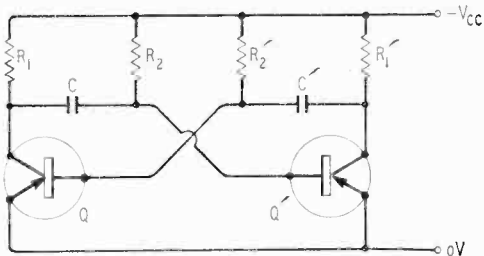
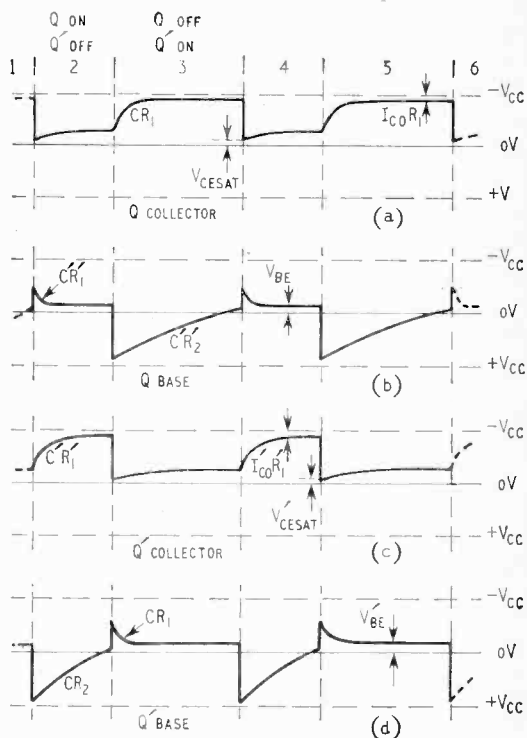
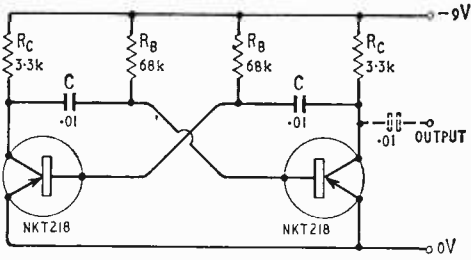
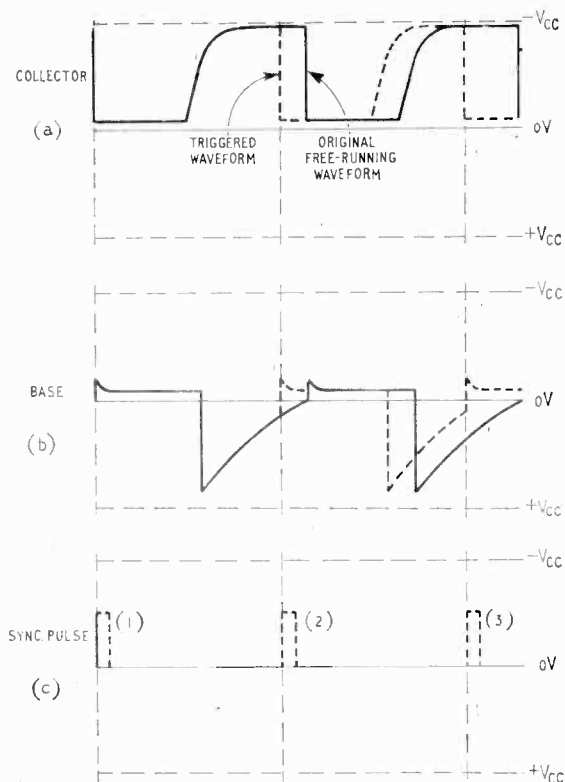

Fig. 33. Elementary astable multivibrator.
Fig. 34. Waveforms of astable multivibrator of Fig. 33.
Fig. 35. Simple 1kc/s astable multivibrator or square-wave generator.
Fig. 37. Wave-shapes of synchronized astable multivibrator.
The astable multi is a self-driven oscillator which generates a train of rectangular waves, and, since it requires no triggering signals, it is widely used as a primary source of pulses. The basic transistor circuit is illustrated in Fig. 33 (note that both cross-coupling impedances are capacitances). Other astable multis using different feedback circuits are
Operating Principle of Astable Multi.—To understand how the circuit of Fig. 33 works, the waveforms given in Fig. 34 are needed (with negative voltages upwards for p-n-p transistors). The sequence of operations is as follows. When the circuit is first switched on, both transistors tend to conduct because current is supplied to the bases through R_2 and R'_2 . The positive feedback from output to input takes the circuit into oscillation between states where one transistor is on and the other off. At the end of period (1) in Fig. 34, the base voltage of the left-hand transistor Q is rising towards zero volts. As the base passes through zero and rises negatively, Q starts to conduct and causes the collector voltage of the transistor to drop towards zero. This voltage drop is transmitted to the base of the other transistor Q' via the coupling capacitor C and causes a rise in Q' collector voltage. This rise is applied back to the base of Q via the coupling capacitor C, so causing a further increase in the collector current in Q. The action develops cumulatively and causes the base voltage of Q to rise rapidly to a small negative value and its collector voltage to drop close to zero. At the same time the base of Q' drops to a large positive value (well beyond the Q' base cut-off value), and its collector rises close to the supply voltage. Note that the base of Q cannot rise above the small negative value because the flow of base current in the transistor input makes the base-emitter resistance small and limits the voltage developed across it. In this rapid switch over, the circuit is said to "flip."
The regenerative switching stage is now complete and the circuit is then said to "relax" during period (2) in Fig. 34. (This is the origin of the description "relaxation oscillator" sometimes applied to this multi). During this period, two things happen. First, C charges via R'_1 and the low resistance base-emitter path of Q, thus causing the base of Q to return towards zero with a time constant CR'_1 and the collector of Q' to rise towards the rail voltage V_{cc} with the same time constant. Secondly, C discharges through R_2 and the base voltage of Q' rises towards zero with a time constant CR_2 .
Oscillation Frequency of Astable Multi.—The frequency at which the astable multi oscillates is set principally by the time constants CR_2 and CR'_2 in Fig. 33, although it is also affected slightly by other factors such as the collector leakage current, I_{CO} , and the base-emitter drive voltage, V_{BE} , of the transistors used. Also for high frequency operation, transistor internal and circuit stray capacitances become significant. To a first approximation, however, at relatively low frequencies it can be shown that the period of oscillation is expressed by
Practical Design of Astable Multi.—A precise paper design of an astable multi is quite complex, but the simple practical 1kc/s square wave generator shown in Fig. 35 can be used to illustrate at least the more important design points.
The voltage ratings of the transistors can be worked out from the waveforms of Fig. 34. They must have a V_{ce} rating at least equal to the d.c. supply voltage. Also the base-emitter junction sees a peak reverse voltage equal to the supply voltage and the collector-base junction nearly twice this. In the circuit of Fig. 35 this means V_{ce} , V_{cb} , V_{eb} ratings of 9V, 18V, 9V respectively. The NKT 214, a conventional p-n-p germanium audio transistor, has ratings better than this.
The battery voltage is selected at 9V in Fig. 35 because this is fast becoming a practical semi-preferred value for transistor low level circuits and a wide range of standard dry batteries is available at this voltage.
The output from an astable multi can be taken from either collector. The load resistance is then in parallel with the collector resistance, but it has only a second order effect on the repetition frequency because the collector resistor does not appear in the approximate frequency formula. In Fig. 35, the output can be taken off from the right hand collector (through a $0.1 \mu F$ d.c. isolating capacitor if desired), and this simple circuit makes a useful 1kc/s square wave test oscillator, with an output impedance of 3,300 ohms.
The resultant waveforms from such a procedure are shown in Fig. 37. Negative going sync. pulses are applied to the base of one transistor (say Q of the simple astable circuit of Fig. 33) at a faster repetition rate than the free-running frequency of the circuit which is indicated by the continuous line in (a) and (b). If pulse No. 1 arrives at an instant when Q is already switching on, pulse No. 2 will arrive at the transistor base when the voltage there is rising towards zero, but has not quite reached a level to switch the transistor on by itself. The negative pulse takes it immediately over to a negative level and so accelerates the transition of Q into its conducting state as shown by the dotted traces, coinciding with the leading edge of pulse No. 2. In effect this causes Q to conduct before it would have done under the normal CR discharging conditions. As each successive sync. pulse causes this to happen, the astable multi locks in with the sync. pulses.
The example shown has been for an unsymmetrical output. If a symmetrical output is required at the lower frequency, it will be necessary for sync. pulses to be applied to both transistors. This can conveniently be done by including a small resistor between the commoned emitters and positive earth in Fig. 33 and applying the sync. pulses across this resistor.